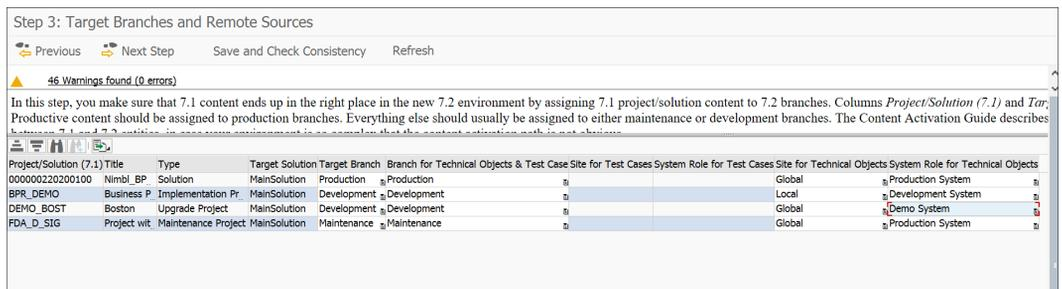

Figure 27 Step 3—Target Branches and Remote Sources
7. In **STEP 3: TARGET BRANCHES AND REMOTE SOURCES** (Figure 27) you will need to assign solutions and projects to the 7.2 infrastructure. In this case, the branch is either development, maintenance or production. If you have created more branches be sure to assign your projects to the correct branch. This should have already been determined by your team based on the content within those projects. The branch selected under the column for **TECHNICAL OBJECTS & TEST CASES** and **SYSTEM ROLE FOR TECHNICAL OBJECTS** should be based on the content as well. Anything that is not considered productive needs to be assigned to a non-production branch. Technical objects are considered SAP transactions, configuration and development objects, and the same rules apply to system role selection for these technical objects. If you created additional sites in the previous step you will need to select the site for technical objects to be assigned to. Select **SAVE** and check consistency. Once the consistency check is complete you must display the results and decide to handle any issues found, just as you did with the previous steps. The same rules apply; if you ignore the warnings then the content will not be activated. When ready select **NEXT**.